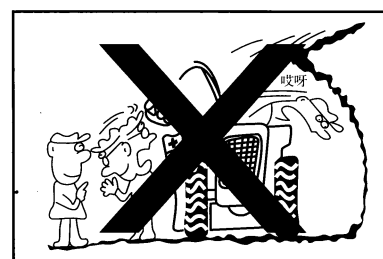

Figure1-77
- When working near a cliff or a place which is easy to collapse, please operate the loader with the safest method and assign a guider to help you. (Figure 1-77)